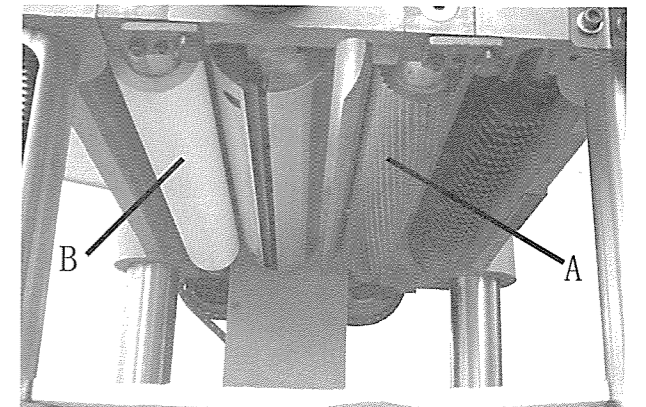

Fig. 24
The infeed roller (A) and outfeed roller (B) Fig.24 are those parts of your planer that feed the stock while it is being planed. The infeed roller and the outfeed roller are under spring tension and this tension must be sufficient to feed the stock uniformly through the planer without slipping but should not be too tight that it causes damage to the board.